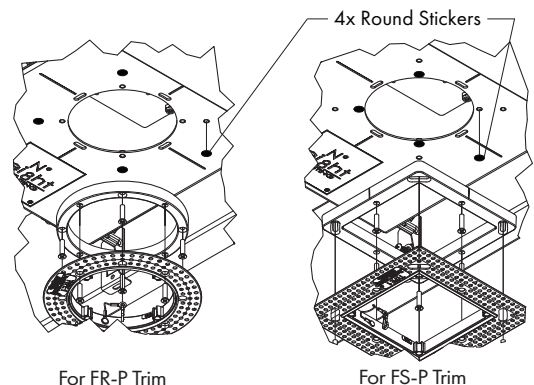

FIG 3.4 Sticker Application
SEE PAGE 3, FIG. 3.4 FOR STICKER INSTALLATION
- STEP 4 Apply Stickers over unused holes & slots as shown to prevent light leaks & maintain airtight standards compliance. No caulking required – **FIG 3.4.**